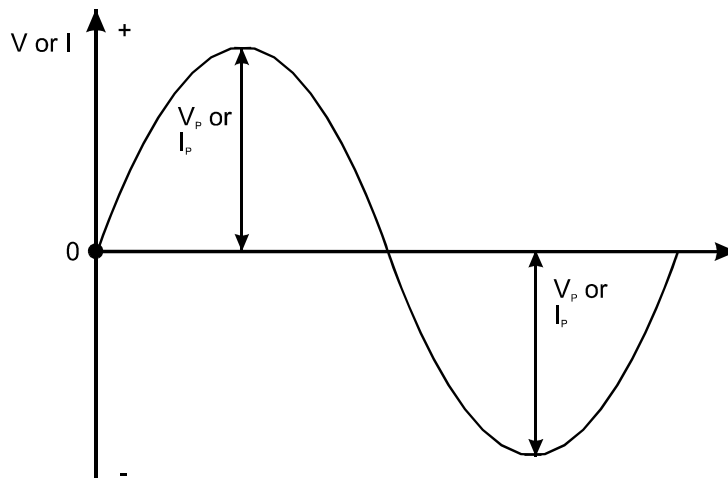

Figure 1.19
- **Peak value.** The peak value of a sine wave is the maximum value that the current or the voltage reaches with respect to zero. The polarity is not important, because the negative and the positive peak should have identical values. Peak values are designated V_p and I_p for peak voltage and peak current respectively. Figure 1.19 shows peak values.